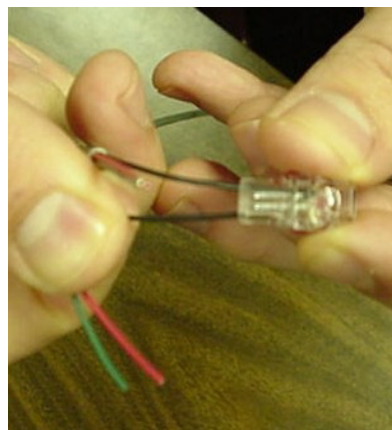

Figure 37 Seating Connector Wires
- 4 Take a non-stripped black wire from the pigtail and a non-stripped black wire from the receptacle/MIU and insert wires into the Scotchloks connector until fully seated in connector. See Figure 37.